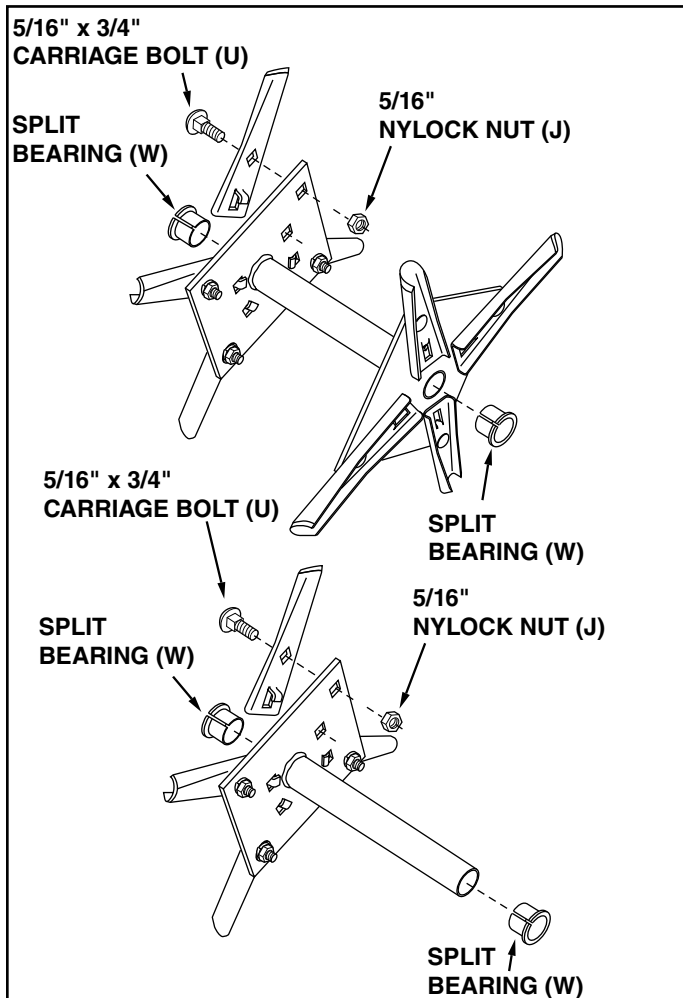

FIGURE 1
1. Assemble eight aerator knives on the outside of each double spool assembly. Assemble four aerator knives on the outside of each single spool assembly. Rotate each knife to insert the locking tab into the spool plate, then align the square holes and secure with a 5/16" x 3/4" carriage bolt (U), and a 5/16" nylock nut (J). See figure 1.
2. Push split plastic bearings (W) into both ends of all single and double spool assemblies. See figure 1.